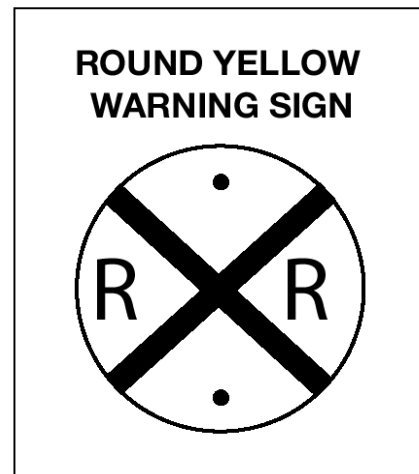

Figure 10.5
**Advance Warning Signs.** The round, black-on-yellow warning sign is placed ahead of a public railroad-highway crossing. The advance warning sign tells you to slow down, look and listen for the train, and be prepared to stop at the tracks if a train is coming. See Figure 10.5.